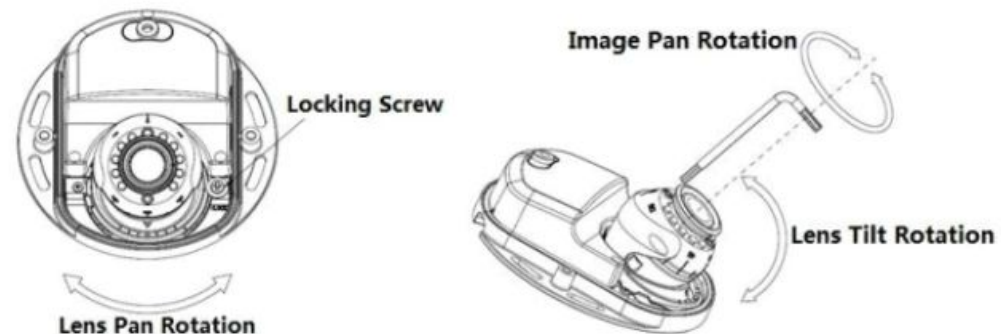

Figure 2-2
**Adjusting Lens angle:** Loosen the locking screw. The lens horizontal adjustment can be directly adjusted manually. For vertical adjustment, take out the inner hex wrench in the accessories bag and insert it into the wrench hole on the lens surface and rotate the inner hex wrench to adjust. Tighten the locking screw after adjustment is completed. See Figure 2-2
**Note:** Range of lens adjustment angle: horizontal rotation direction ( $-30^{\circ}$  ~  $+30^{\circ}$ ), vertical rotation direction ( $0^{\circ}$  ~  $+80^{\circ}$ ), image rotation direction ( $0^{\circ}$  ~  $+360^{\circ}$ ).. See Figure 2-2.
**Step 3 (If installing SD Card)** Adjust the Micro SD Card to a proper direction shown in Figure 2-2.